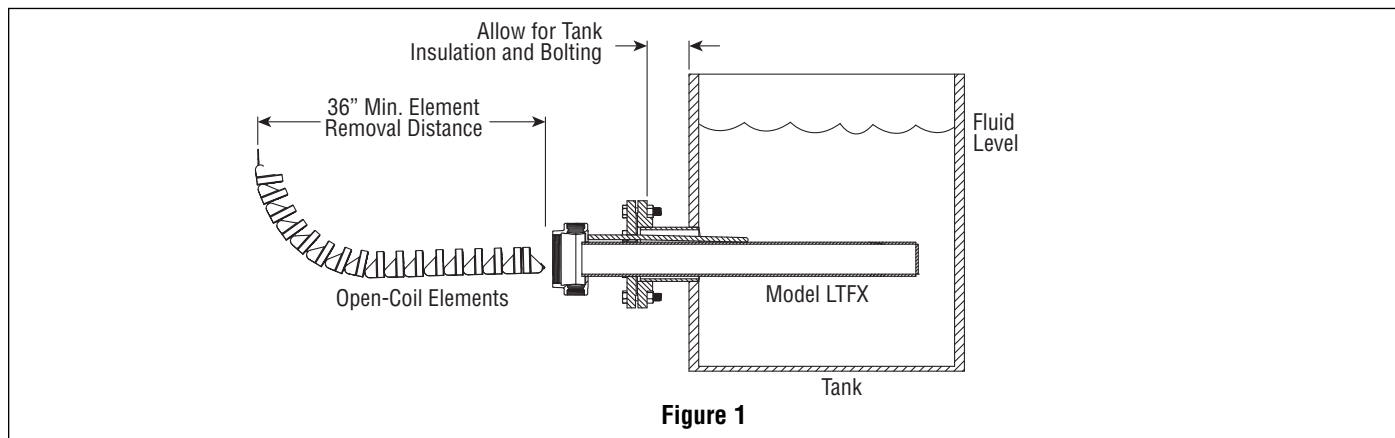

Figure 1
4. Select a location for this installation according to the following guidelines: (refer to Figure 1)